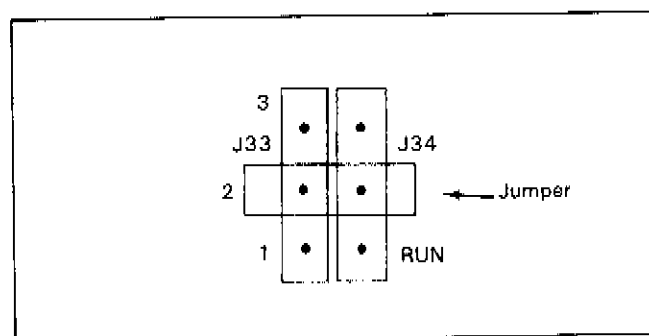

Figure 8-B-2. Jumper A30J33/34 in the 2 Position.
1. Move A30J33/J34 to the 2" (middle) position, as shown in Figure 8-B-2.